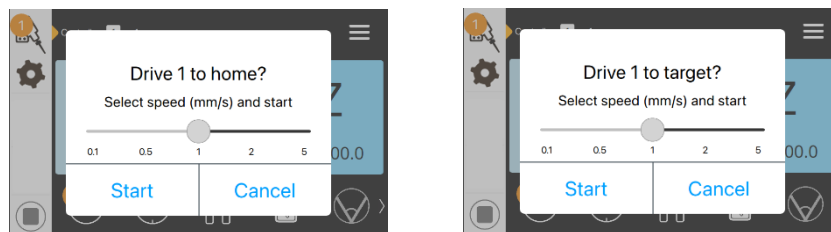

Figure 35. *Home* and *Target* memory positions
- A pop-up dialog enables defining the positioning speed and confirming execution (Figure 35).